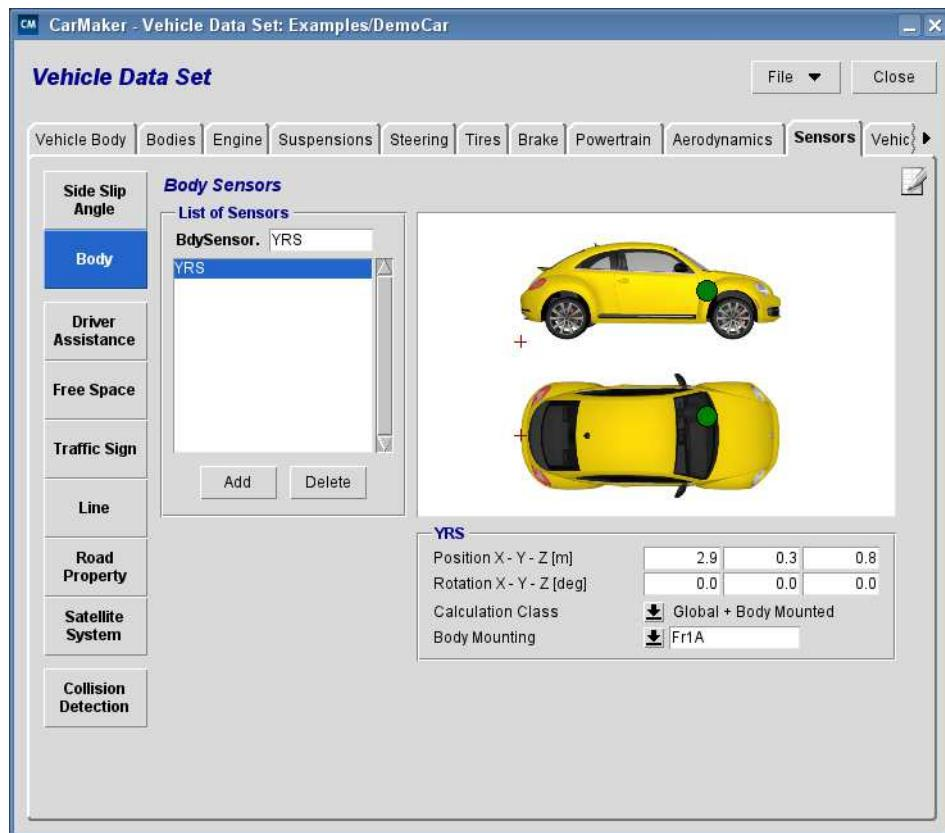

Figure 5.97: Definition of *Body Sensors*
- BdySensor.** Here you can enter a name for the current sensor, to alleviate the identification of the sensor quantities, e.g. in IPGControl. All User Accessible Quantities of this sensor will start with the prefix *BodySensor.Name.\**. In the example in Figure 5.97, the UAQs of this sensor will start with *BodySensor.YRS.\**.